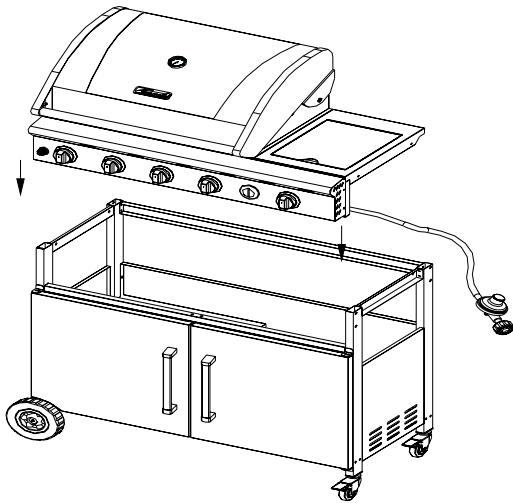

Figure 11
3. Align screw holes located on the outside of the grill. (Fig.11)